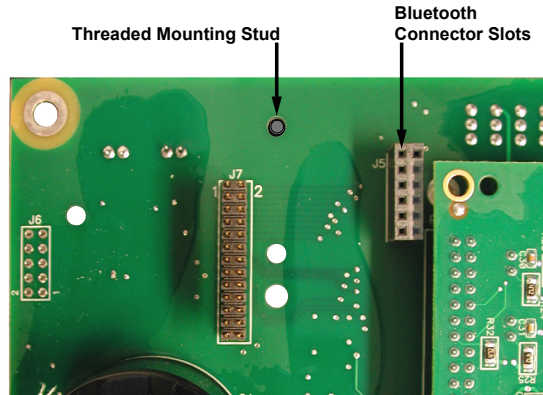

Figure 8-2 Main PCB, Bluetooth Serial Module Connector Orientation
1. Locate the Bluetooth connector slots and threaded mounting stud (Figure 8-2) on the upper-left corner of the main PCB.
5. Observing the orientation of the connector pins (Figure 8-3) on the Bluetooth Serial Module, mount the Bluetooth module into the connector slots (Figure 8-2) of the socket spacer.